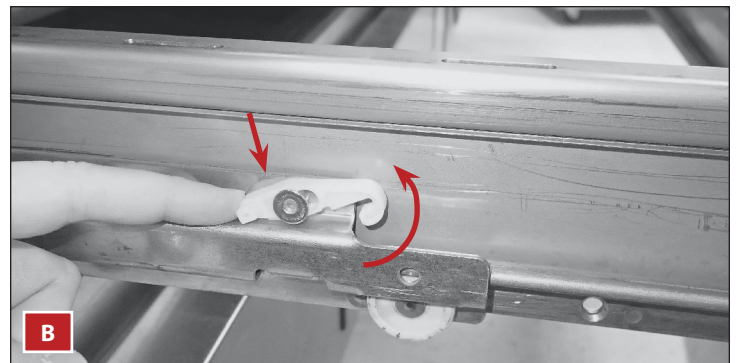

Fig. 2b. Push the back of the retainer down.
1. With the plastic drawer retainer raised, align the drawer with the slide and push the drawer into position. See figs. 2b and 3.